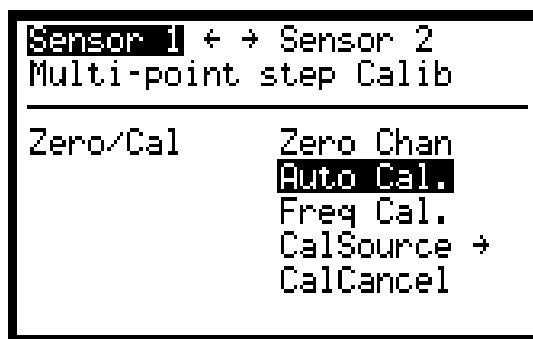

**Figure 3-20. External Calibrator Connection**
- 3.10.6 Calibrator Selection. Certain peak power sensors have a video bandwidth that is too high to permit calibration using the 4530's built-in 50MHz calibrator. In this case, an external 1GHz calibrator must be used to autocal the sensor. The Boonton Model 2530 1GHz Programmable Calibrator is designed to connect directly to the 4530 and operate under instrument control in the same manner as the internal calibrator. (See Appendix B.) To use an external 2530 calibrator to calibrate sensors, first make sure the 2530 is connected to the **EXT CAL CONTROL** connector on the rear of the instrument using a standard RJ-11 type modular telephone cable (see Figure 3-20). The calibrator's power must be turned on, and proper connection can be verified by pressing **MainMenu > Calibratr > SelectExt** to select the external calibrator, then pressing **MainMenu > Calibratr > ExtStatus** to view status information from the 2530. If an error message appears, check the connections and repeat the process.